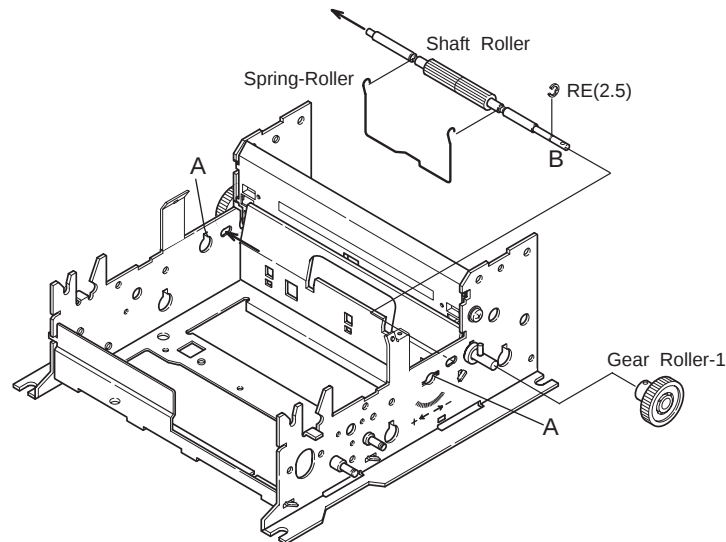

Figure 4-9. Separating Paper Feed Block-2
21. Remove Gear Roller-1 from the Rubber Roller.(Figure4-9)